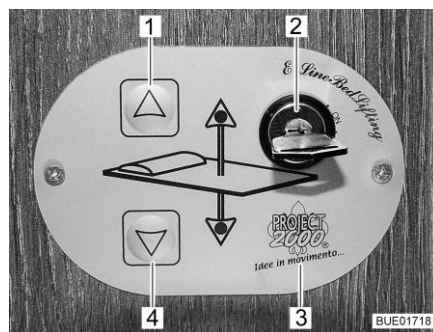
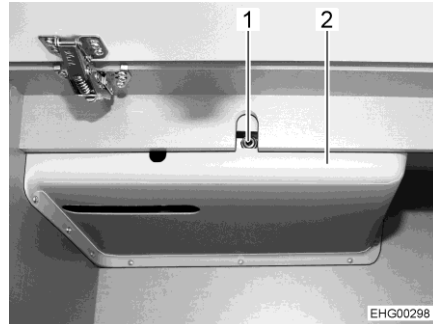

Fig. 143 Control unit
Fig. 147 Access to drive
**Control unit** The pull-down bed is raised or lowered using the buttons (Fig. 143,1 and 4) on the control unit (Fig. 143,3). The control unit is protected against unauthorized use with the key switch (Fig. 143,2).
- Turn the key in the key switch (Fig. 143,2) through 90° clockwise. The control unit (Fig. 143,3) is activated.
- Press the arrow key (Fig. 143,4) and keep it pressed until the pull-down bed has moved down into the desired position.
- Press the arrow key (Fig. 143,1) and keep it pressed until the pull-down bed has moved down into the final upper position.
If it is no longer possible to move the pull-down bed with the arrow keys (Fig. 143,1 and 4), first of all check the fuse behind the panelling (Fig. 147,2) (see section 9.10.1). If the fuse is okay and it is still not possible to move the pull-down bed, operate the pull-down bed manually.
- Insert the crank provided or an Allen wrench into the accommodation on the motor (Fig. 147,1).